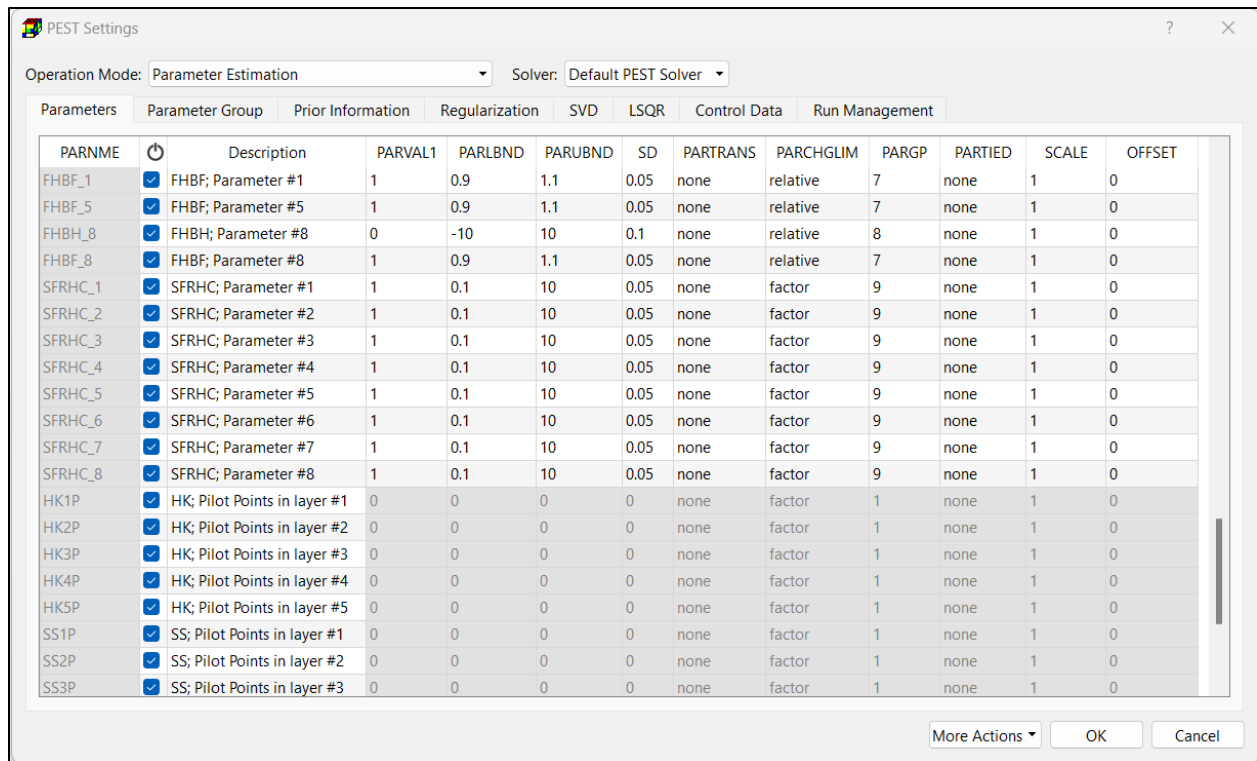

Figure 146. The Parameters tab of the PEST Settings dialog box
- Open the PEST Settings dialog box (Figure 146) by selecting *Models > PEST > Settings*.
Once adjustable parameters are defined, you can add them to the Parameters tab of the PEST Settings dialog box (Figure 146) by selecting *Model > PEST > Settings*. Each row of the Parameters table represents a zone-wise parameter or pilot points of an aquifer parameter in a model layer. If the PEST Settings dialog box is opened the first time, the defined parameters will be listed in the Parameters Tab. Otherwise, select *More Actions > Search for Parameters* in that dialog box to add new parameters.
PEST Settings refer to the configuration and control parameters specified in a PEST Control file (pest.pst). Most of the required data can be entered through the PEST Settings dialog box (Figure 146). The PEST Control file is a crucial component of model calibration, defining how the process is conducted through the key sections listed below. PM automates the management of these settings to streamline the calibration workflow. For a detailed explanation of each setting, refer to Section 3.9.5.2.
The required inputs and options for running PEST are specified in the PEST Settings dialog box (Figure 146), which includes several tabs and a few options. The variable names used in this dialog box are identical as those given in the PEST Manual (Doherty, 2016) and the PEST++ manual **Error! Bookmark not defined.** The available options are described below. The tabs are described in the next subsections.